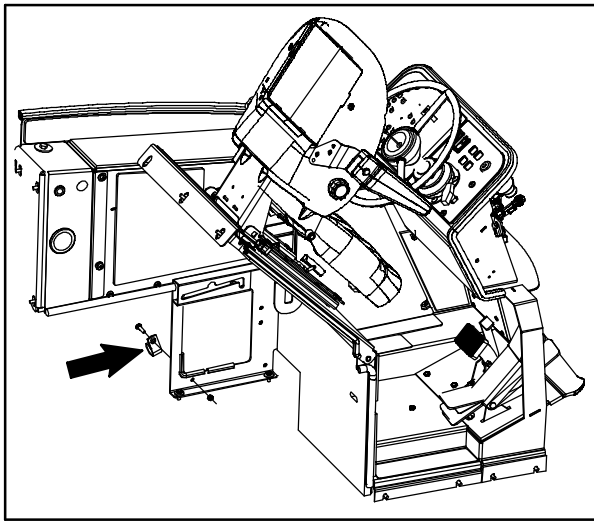
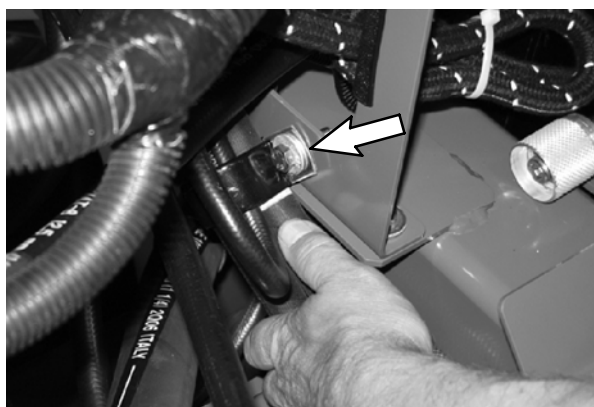

FIG. 2
FIG. 3
3. Remove the LPG tank (if machine is equipped with LPG fuel system) to access the hose clamp located on the inner side of the operator compartment. Refer to Operators Manual for instructions how to remove the LPG tank. Refer to Fig. 2.
2. Loosen the hose clamp and remove hydraulic hose (A) from the clamp. Refer to Fig. 2, Fig. 3, and Fig. 6.
3. Reinstall the hose clamp. Be sure the markings on the remaining hoses remain positioned as shown in Fig. 3.